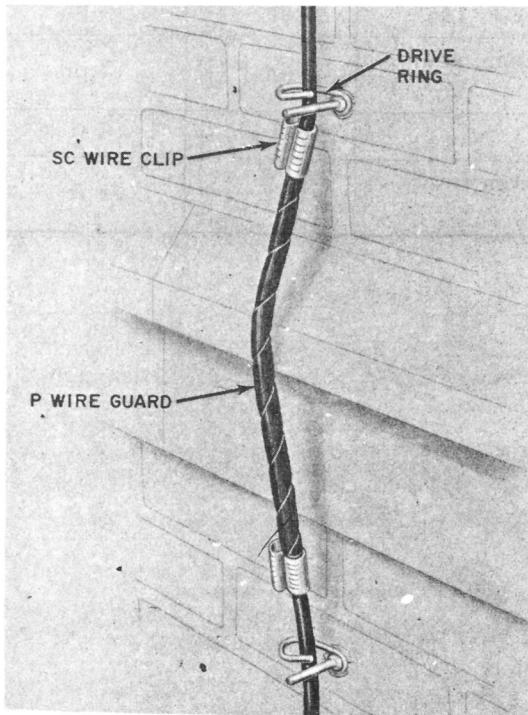

Fig. 3—Crossing Masonry Building Projection
5.04 Fig. 3 through 14 are typical examples of wiring that requires protection.